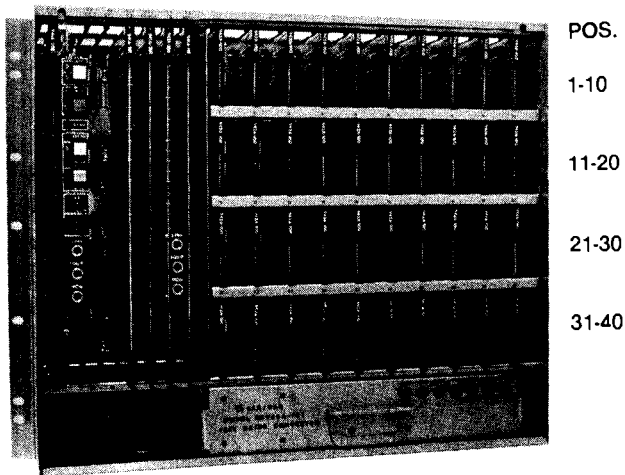

FIGURE 6
- 4.7 Channel Unit-COT, Loop Start (SB942-100) Fig. 6 Pos. 1-40**
- 4.8 Channel Unit-RT Loop Start (SB942A-200) Fig. 6, Pos. 1-40**
4.9 POWER UNIT (SB946B-100, SB946B-101) (Fig. 6 lower)